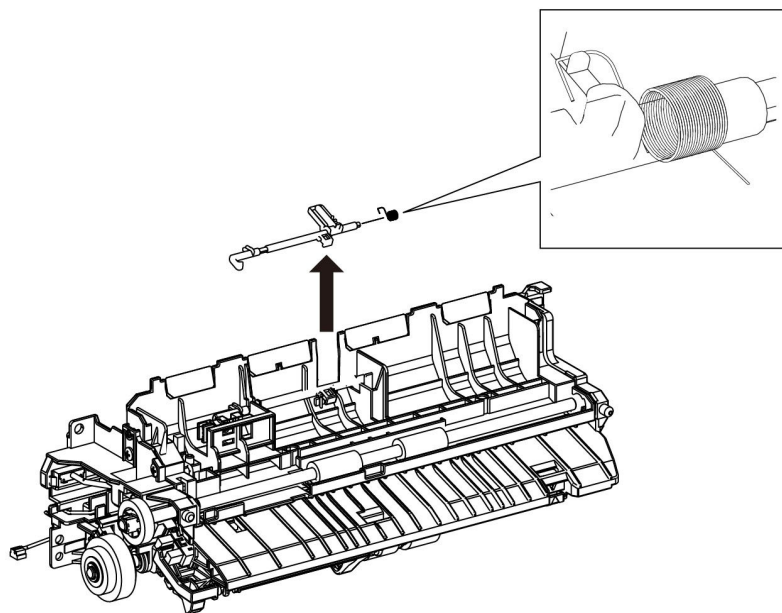

Figure 1 Remove the Registration Actuator
2. Refer to Figure 1, use a flat-blade tool to release the left end of the Registration Actuator, then release the right end and remove the Registration Actuator from the Registration Chute Feeder Assembly.
When replacing the Registration Actuator, install the spring as shown in the detail in Figure 1.